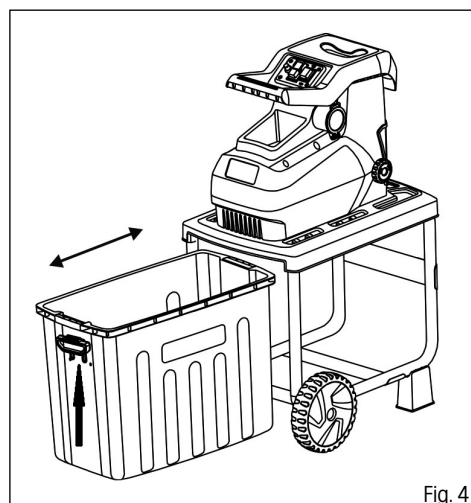

Fig. 4
3. Insert the collection box. Then secure in place with the safety lock (Fig. 4)